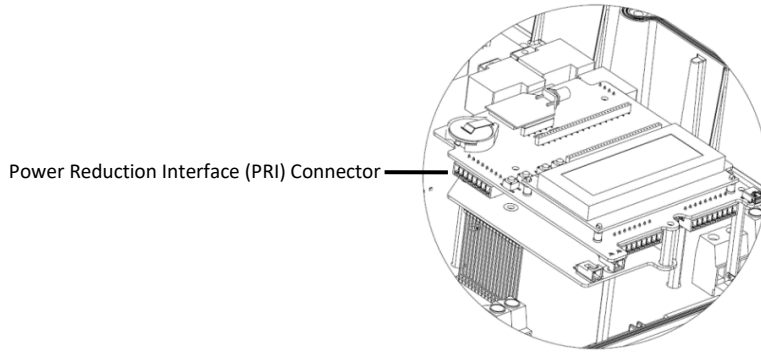

Figure 1: PRI Interface Input
- 1 Connect the RRCR² directly to the SolarEdge inverter communication board through the Power Reduction Interface (PRI) connector. Figure 1 shows the location of the connector. The connector is an 8-port terminal block.
Connect the RRCR³ directly to the SolarEdge inverter communication board through the Power Reduction Interface (PRI) connector. Figure 1 shows the location of the connector. The connector is an 8-port terminal block.